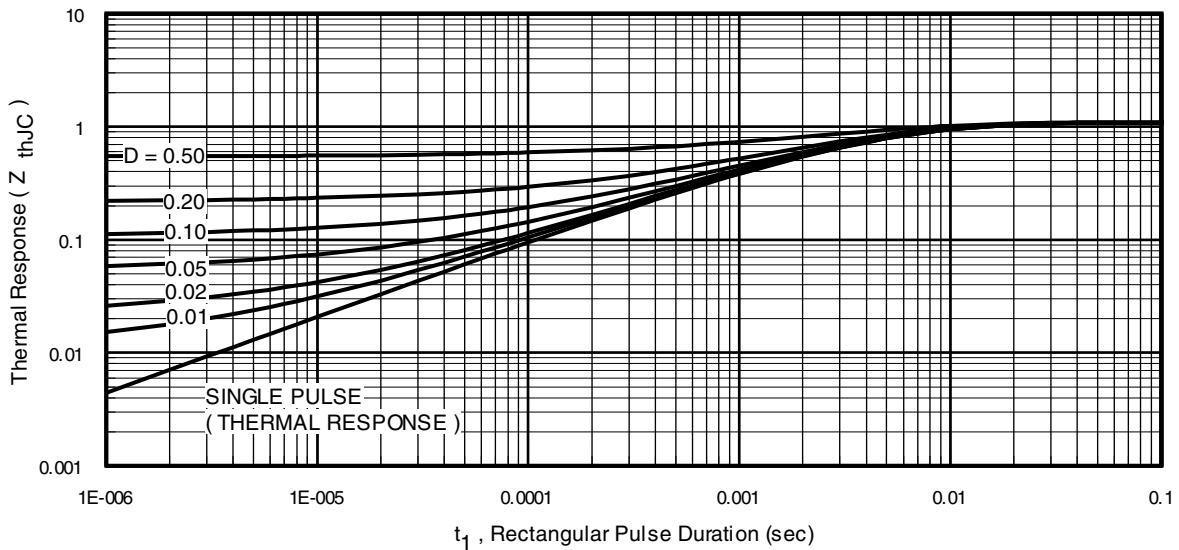
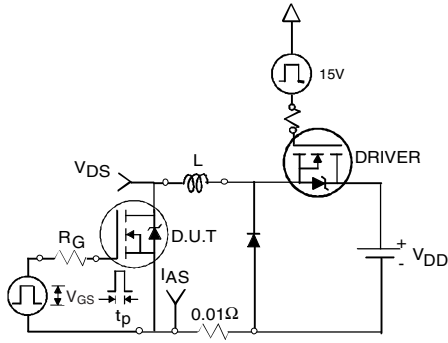

Fig 11. Maximum Effective Transient Thermal Impedance, Junction-to-Case
Fig 12a. Unclamped Inductive Test Circuit
3. Equation below based on circuit and waveforms shown in Figures 12a, 12b.
$Z_{thJC}(D, t_{av})$ = Transient thermal resistance, see figure 11)
- ① Repetitive rating; pulse width limited by max. junction temperature. (See fig. 11).
- ② Limited by T_{Jmax} ; starting $T_J = 25^\circ C$, $L = 0.47mH$, $R_G = 25\Omega$, $I_{AS} = 30A$, $V_{GS} = 10V$. Part not recommended for use above this value.
- ③ $I_{SD} \leq 30A$, $di/dt \leq 300A/\mu s$, $V_{DD} \leq V_{(BR)DSS}$, $T_J \leq 175^\circ C$
- ④ Pulse width $\leq 1.0ms$; duty cycle $\leq 2\%$.
- ⑤ C_{OSS} eff. is a fixed capacitance that gives the same charging time as C_{OSS} while V_{DS} is rising from 0 to 80% V_{DSS} .
- ⑥ Limited by T_{Jmax} , see Fig.12a, 12b, 15, 16 for typical repetitive avalanche performance.
- ⑦ This value determined from sample failure population. 100% tested to this value in production.
- ⑧ When mounted on 1" square PCB (FR-4 or G-10 Material). For recommended footprint and soldering techniques refer to application note #AN-994